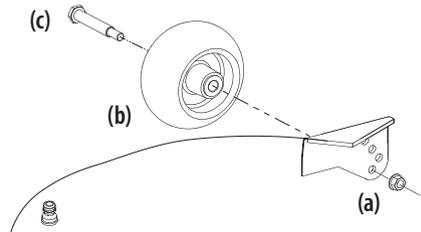

Figure 11
6. Remove the lock nut (a), gauge wheel (b) and shoulder screw (c) from the deck. See Figure 11.
7. Insert the shoulder screw (c) into one of four index holes on the deck wheel bracket. Allow a 1/4-1/2" (6.35-12.7 mm) clearance between the ground and gauge wheel. See Figure 11.